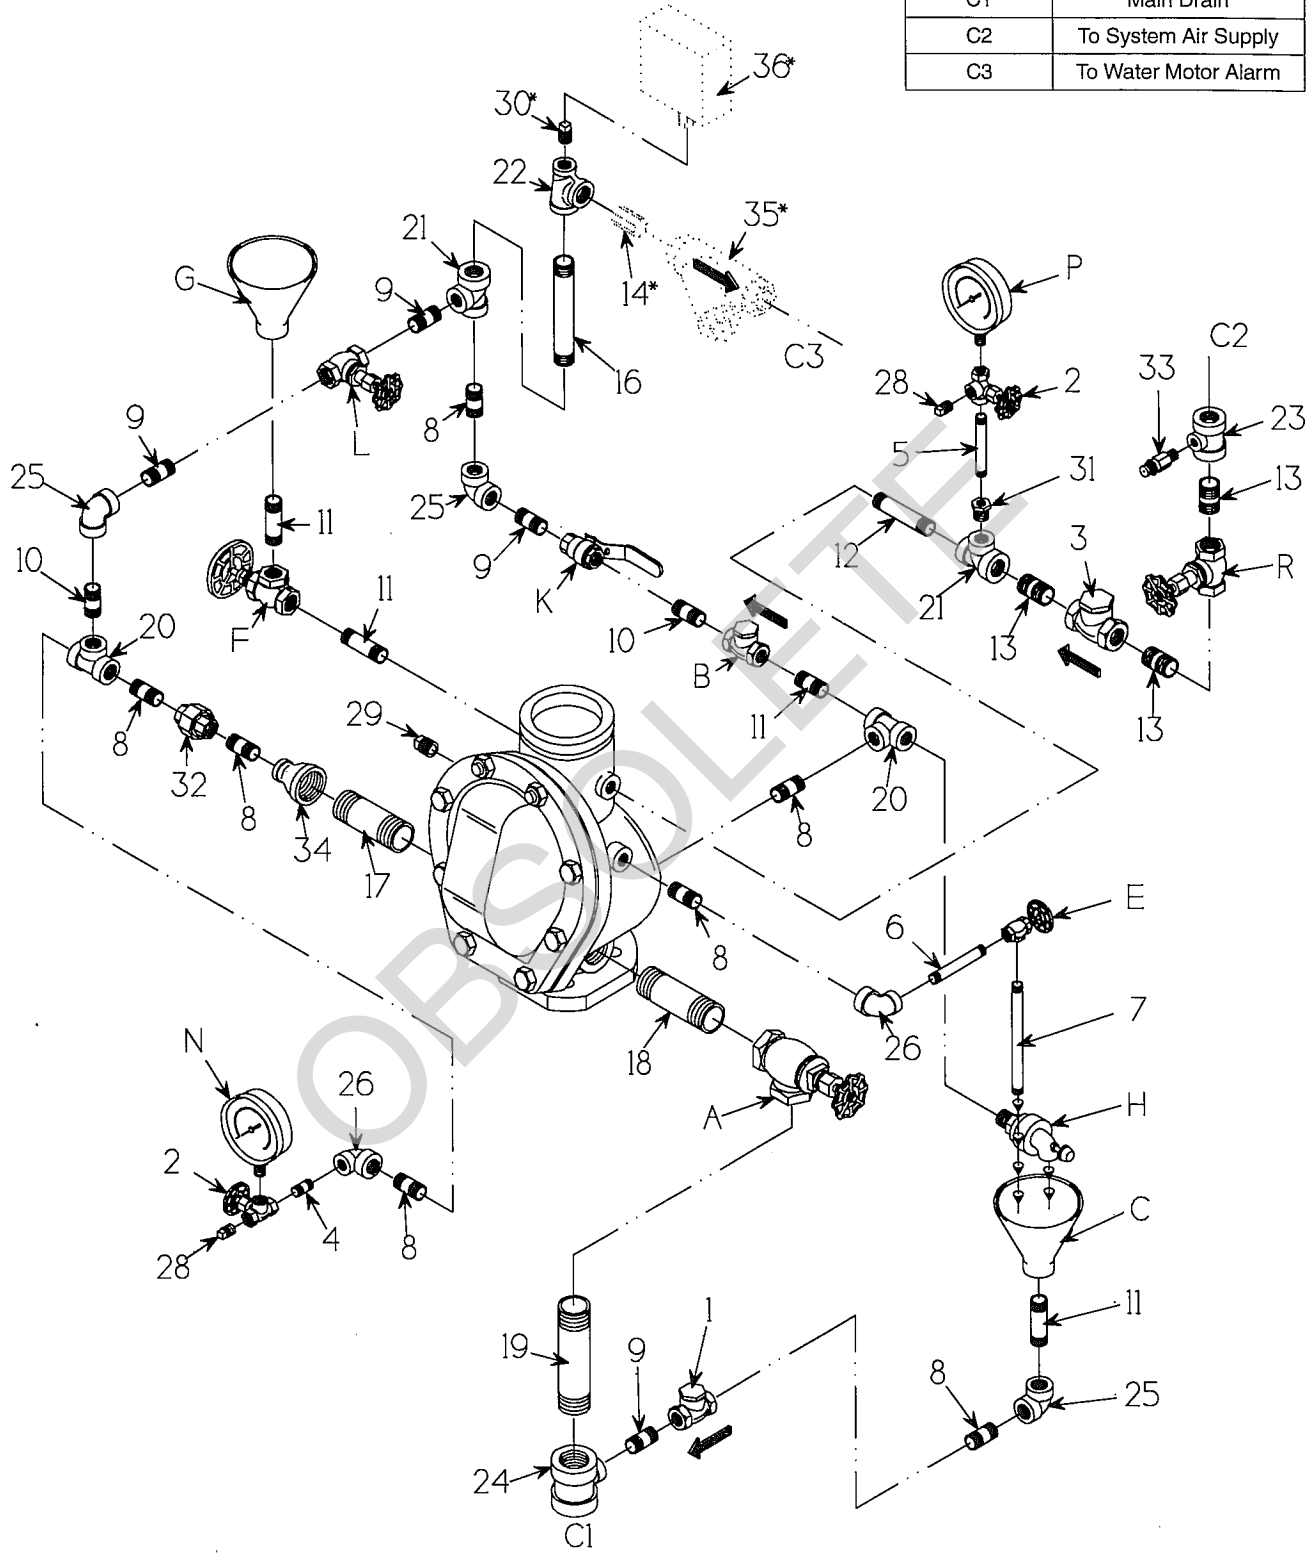

Figure 1 - 3" Model A Dry pipe Valve Trim Diagram P.N. 1207
2. Open 1" main drain valve (A, Fig. 1) and drain system. Open all drain valves or plugs at low points throughout the system, and close them when water has stopped flowing.
6. Open priming water level control valve (E, Fig. 1).
7. Open priming valve (F, Fig. 1); pour water into fill cup until water flows from the outlet of valve E; then close valve F tightly.
9. Open air supply valve (R, Fig. 1) and allow a few pounds of air pressure to enter the system. This will be indicated on air gauge (P, Fig. 1).
After air pressure has remained at the prescribed limit for a few minutes, inspect the velocity drip check valve (H, Fig. 1). If no leak occurs, air seal is tight. (If leak occurs, see the section on leaks under "Maintenance.")
12. Fully open valve A and, very carefully, slightly open the main water supply valve (not shown). Slowly close valve A until water pressure shown on water gauge (N, Fig. 1) reaches maximum pressure.
14. Open ball valve (K, Fig. 1) to the wide open position. This valve should be sealed in the open position to permit water flow to alarms.
4. **Check for Obstructions:** Check drain piping for obstructions. To obtain a satisfactory test result, there must be an unobstructed flow of water when the valve (A, Fig. 1) is fully opened.
The water motor alarm and/or the alarm pressure switch are tested by opening the alarm test valve (L, Fig. 1). This releases water into the alarm line, which should activate the alarm. Close this valve tightly when testing has been completed.
If the water motor alarm is sluggish or does not sound at all, remove and inspect the strainer screen. Remove plug from the strainer (33, Fig. 1), clear the strainer screen and body of all foreign matter, and retest.
Drainage of the alarm piping after testing occurs automatically through a small hole in the clapper of the check valve (B, Fig. 1).
1. With the main drain valve (A, Fig. 1) closed, record the reading on the gauge (N, Fig. 1).
2. Open valve (E, Fig. 1) and allow air to discharge from system piping. Observe air pressure gauge (P, Fig. 1) and record the pressure at which the valve trips.
3. When valve trips, quickly close the system control valve and open the main drain valve (A).
To check priming water level, close the valve controlling the water supply to the dry pipe valve and draw off system water pressure by first opening the drain valve (A, Fig. 1), and then opening valve E (Fig. 1). If water flows, draw it off slowly; close valve E after water flow ceases.
Occasionally, push the plunger on the velocity drip check valve (H, Fig. 1) to ensure that the check ball is free and no water has accumulated in the intermediate chamber of the dry pipe valve.